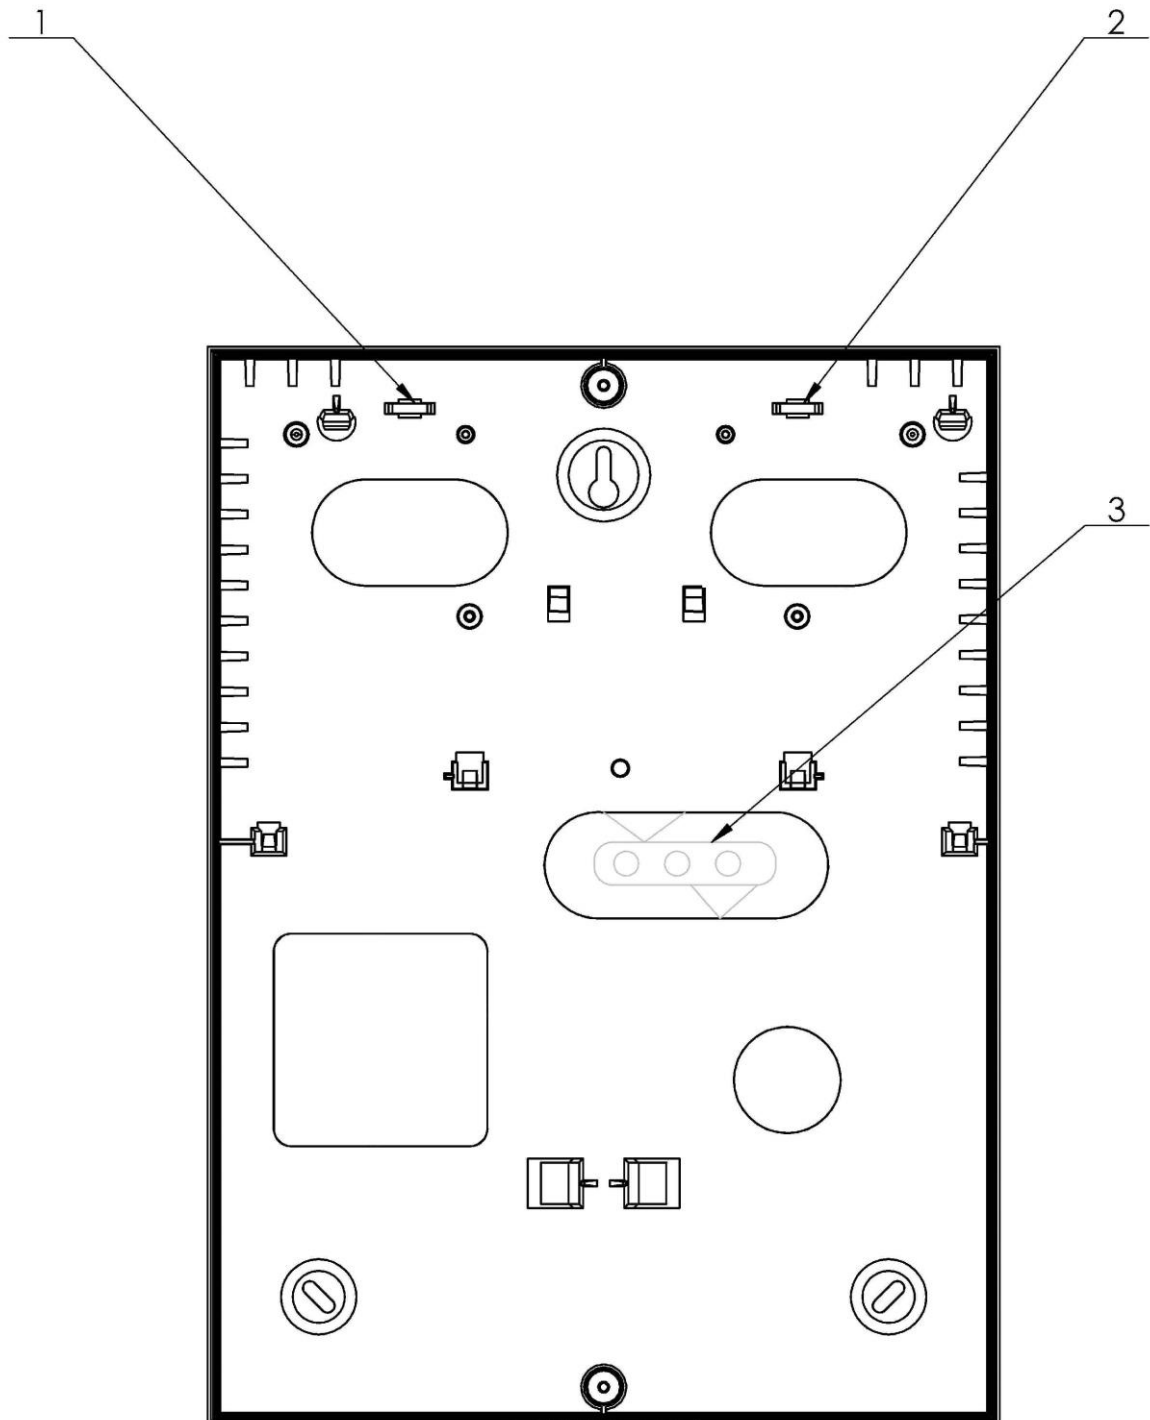

Fig.10
- The mains power line, passing through the dedicated opening (p.14.1.2) is fixed with tie-wraps in the cabinet on fig.10, pos.1.
- The signal lines, passing through the dedicated opening (refer p.14.1.2) is fixed with tie-wraps in the cabinet on fig.10, pos.2 and fig.10, pos.3.